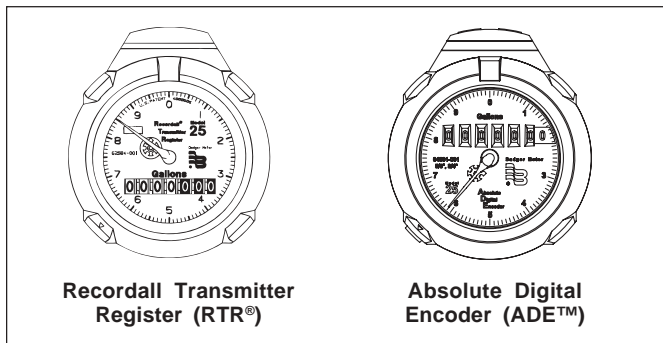

Figure 1
Each pit ORION transmitter can be identified using the unique eight-digit serial number located on a tag attached to the wire harness. At the end of the serial number a letter 'M' or 'N' appears. This alpha character represents whether the transmitter is for Metal (M) or Nonmetal (N) pit lid applications. Each Badger Meter encoder is clearly identified on the face of the register with an assembly number, unit of measure and meter model (see figure 1). It is essential that the correct transmitter is used for the correct pit lid application. Failure to do so will result in a violation of FCC regulations.